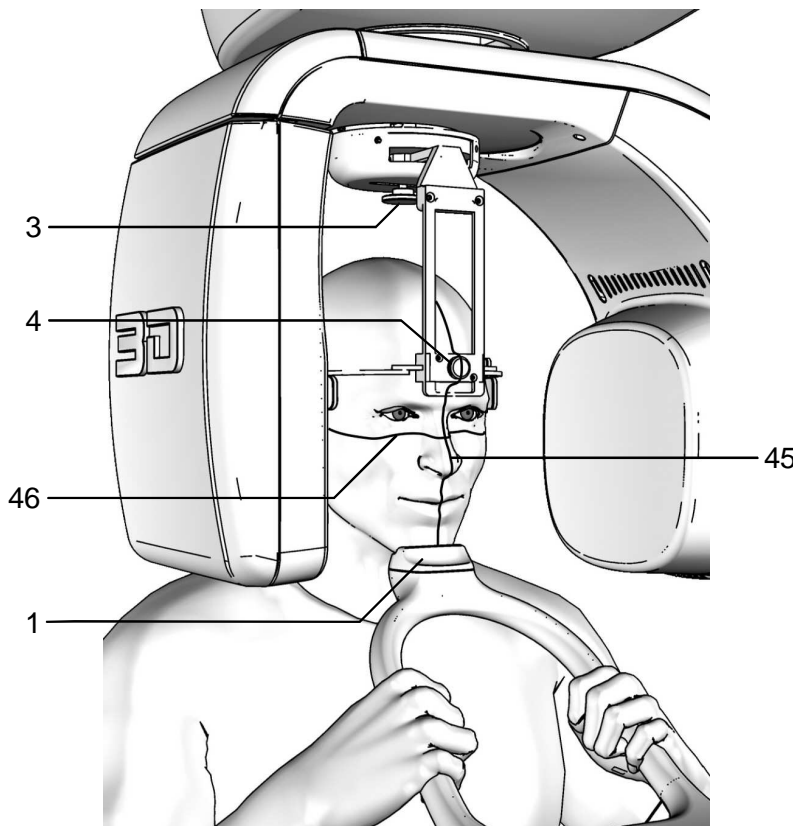

Figure 18 – SINUS positioning
4. Verify that the temple clamp device is in the central position (Figure 10), and if necessary move it using the appropriate control on the top of the support (Figure 18).
5. Place the patient in the temple clamp (Figure 18) by placing the chin on the surface of the relevant support; the hands should rest on the front handgrips. Ensure that the patient rests his chin on the chin support for SINUS.
8. Press the key "Centring devices ON" (14)  .
9. Place the temple clamp in contact with the patient's head by means of the appropriate knob (Figure 18).
11. Press the key "Patient Entrance" (7)  to confirm the parameters. The luminous centring devices switch off and the rotating arm goes to its examination start position. Once alignment has been completed, the following message will be displayed: